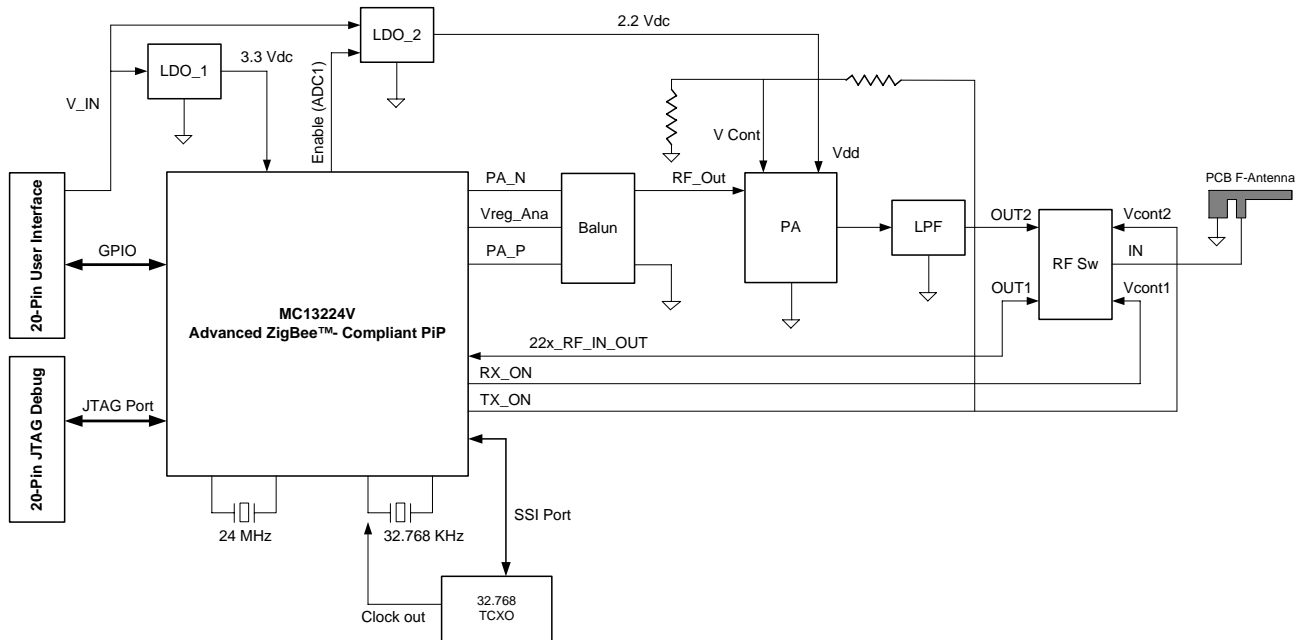

Figure 3-1. 1322x Extended Range Board Block Diagram
Figure 3-1 shows the 1322x Extended Range Board system level block diagram.
- The operating voltage V_{Batt} is 3.3 Vdc supplied from the primary LDO regulatory (LDO_1 in Figure 3-1)
- The primary clock source is provided by the 24 MHz crystal reference oscillator (24 MHz crystal shown in Figure 3-1)
The primary power supply input V_IN is supplied via the user interface port. V_IN supplies two LDO series regulators in parallel, i.e., LDO_1 and LDO_2 (in Figure 3-1).
The MC1322x provides four control signals that can be dedicated to external RF elements, i.e., ANT_1, ANT_2, RX_ON, and TX_ON (refer to *MC1322x Advanced ZigBee™- Compliant SoC Platform for the 2.4 GHz IEEE® 802.15.4 Standard Reference Manual*, document number MC1322xRM, for detailed information). For the 1322x-ERB, two of these are used, i.e., RX_ON, and TX_ON, and a separate GPIO designated as ADC1 is used to enable the 2.2 Vdc regulator (LDO_2 in Figure 3-1).